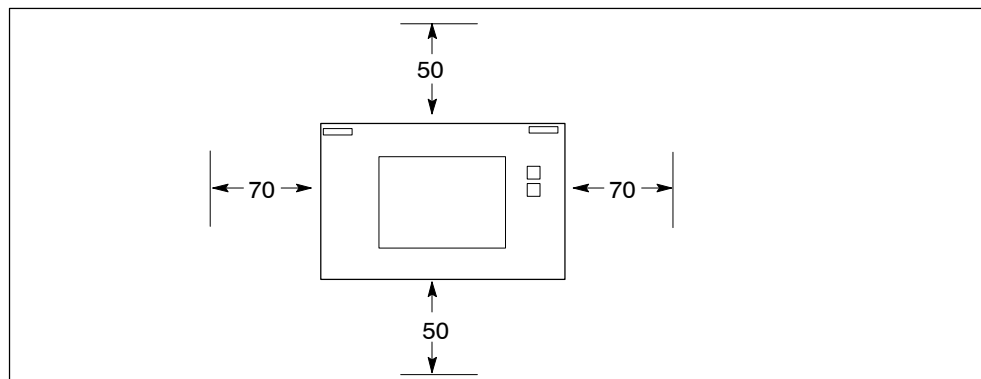

Figure 3-9 Installation Clearances When Mounting the C7-635 Touch
- A distance of at least 50 mm and 70 mm respectively must be maintained on the sides of the C7-635 for outgoing cables and to allow for air circulation, as is shown in Figure 3-9.